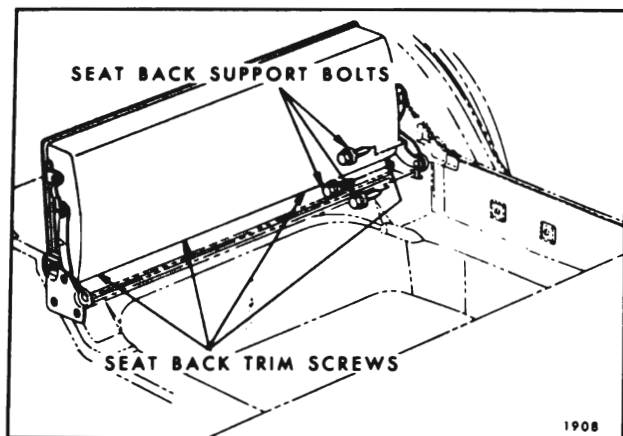

Fig. 15-54—Folding Third Seat Back
2. Remove four screws securing lower edge of seat back trim to seat back panel. (See Fig. 15-54).